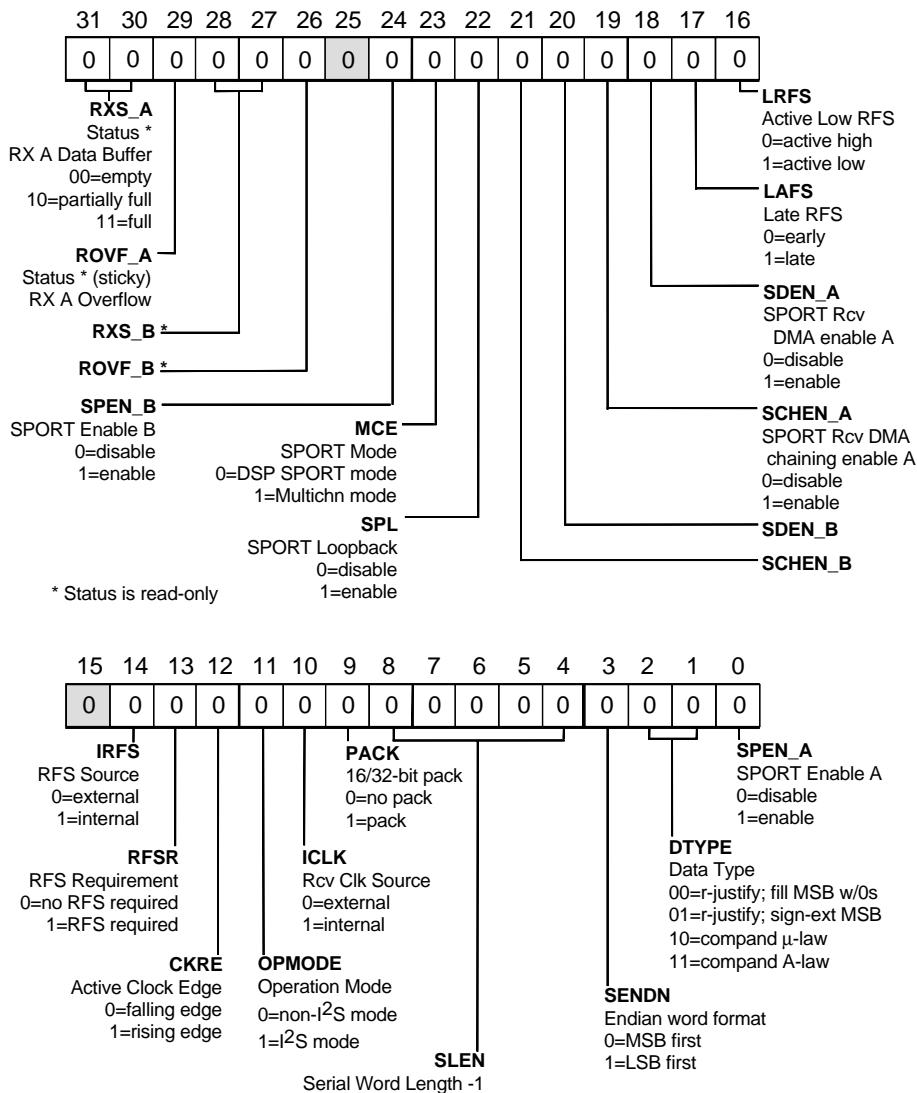

Figure E-12. SRCTLx register bits—standard mode
After reset, these registers are initialized to 0x0000 0000 as shown in figures E-12, E-13, and E-14. When changing operating modes, make sure you write all zeros (0) to the serial port's control register to clear it before writing the new mode.